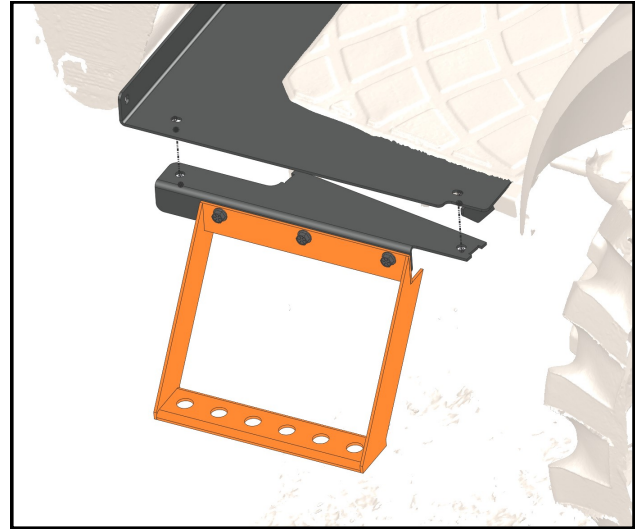

Fig. 4.1 (Step Adapter)
- 4.1** Per figure 4.1, install the step adapter bracket in place of the step under the left floorboard, using the hardware that was removed and align to the holes in the cab floorboard mount.